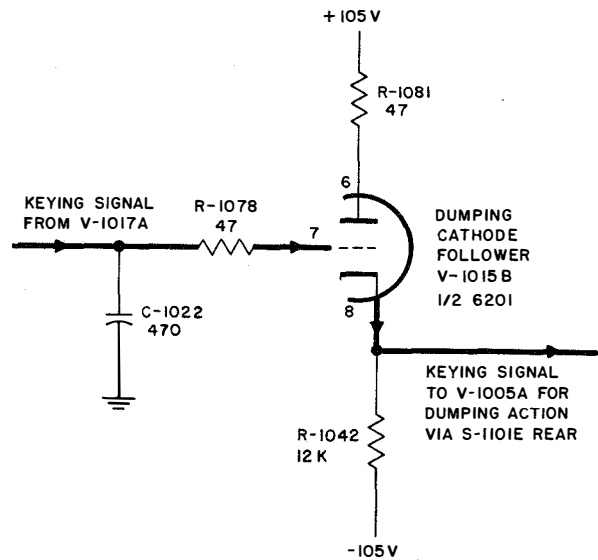

Figure 2-83. Dumping Cathode Follower, Simplified Schematic
(5) **DUMPING CATHODE FOLLOWER.**—Keying signals to the dumping circuit are fed to the dumping cathode follower, V-1015B (figure 2-83), before being passed on to the push-pull cathode followers. The action of the dumping cathode follower is to provide a low impedance to the input to the push-pull cathode follower to reduce the time constant so the waveshape is not destroyed. The signal is fed to the grid of V-1015B from the multivibrator and controlled by the waveshaping capacitor, C-1022. R-1078 and R-1081 are parasitic suppressors. The output is taken directly from the cathode of V-1015B, with the voltages following closely to the input, which is zero volts for space and -65 volts for mark. The keying signals are connected to the push-pull cathode followers through SERVICE SELECTOR switch (U) S-1101E rear in the HAND and MACH positions. In FSK and FAX operation, the transmitter group is "on the air" continuously; thus no load compensation is required. In phone operation, load compensation is not required as the +500-volt supply is turned off when press to talk is up by the action of the keying relay, K-1101 (paragraph 7c(1)). A complete discussion of the dumping function is given in paragraph 7b(7)(b).